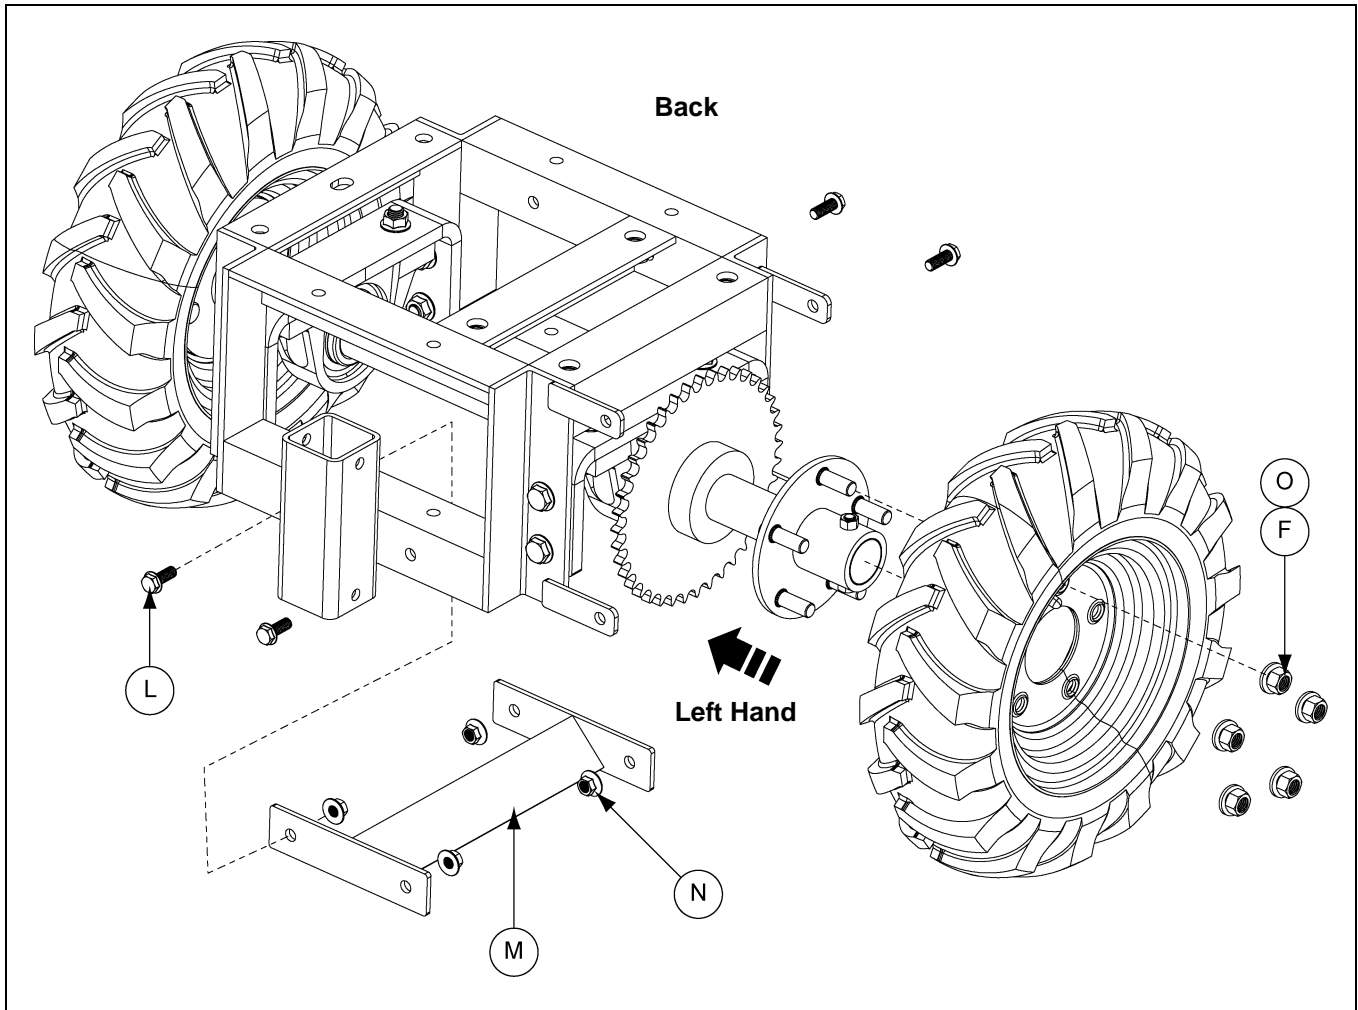

Figure 4C
NOTE: Remove the screws or nails that are present in the tires to contain the foam in the tires when they are made. The treads of the tires should be in the forward direction. *Figure 4C* shows the proper orientation of the tire and wheel assemblies.
8. Assemble the strut bracket (M) to the tractor frame using four (4) 3/8"-16 x 1" flange bolts (L) and serrated flange nuts (N). (*See Figure 4C.*)